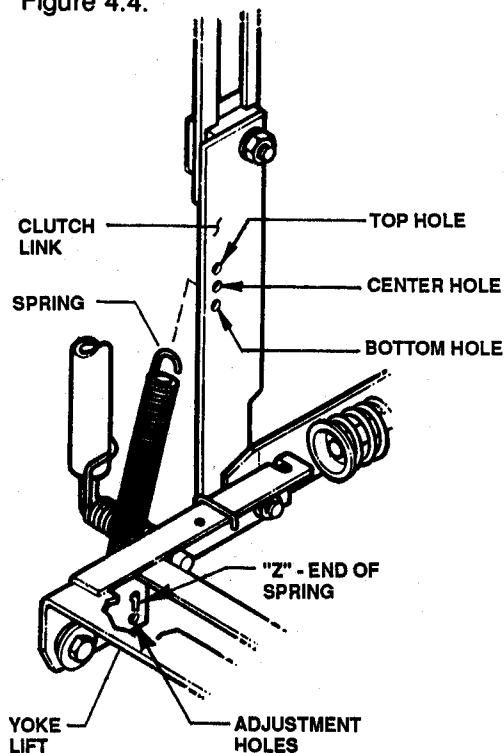

FIGURE 4.4
1. Move hook end of the yoke spring to top hole in the clutch link. If additional traction is required, move Z end of the spring into the bottom hole in yoke lift. See Figure 4.4.
- Reverse procedure to reinstall drive disc. Position disc so that flat surface is 3-13/16" from main case as shown in Figure 4.4. Check replacement disc with dial indicator after installation.